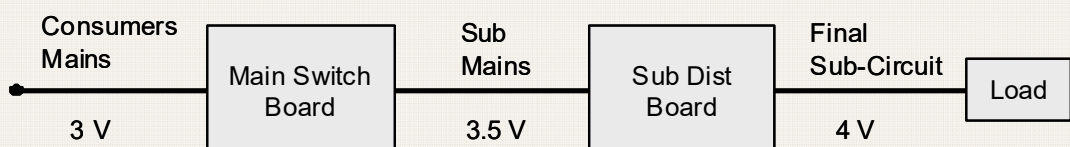

figure 9.
- Figure 9 is a 230 V single phase installation. Determine the total conductor voltage drop.
- Does the circuit of figure 9 comply with Australian standards (yes/No) why?